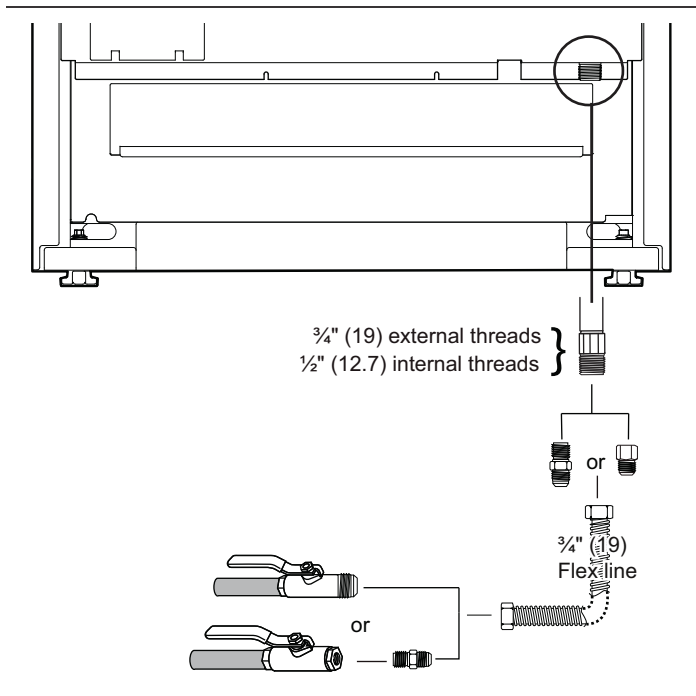

Figure 8: Gas Supply Connection
- Use a $\frac{3}{4}$ " (19 mm) flex line to connect between the gas supply and the appliance gas inlet. The gas supply line connection is located at the lower right portion of all range models (see *Figure 8*). The appliance gas inlet connection is $\frac{1}{2}$ " (12.7 mm) NPT.